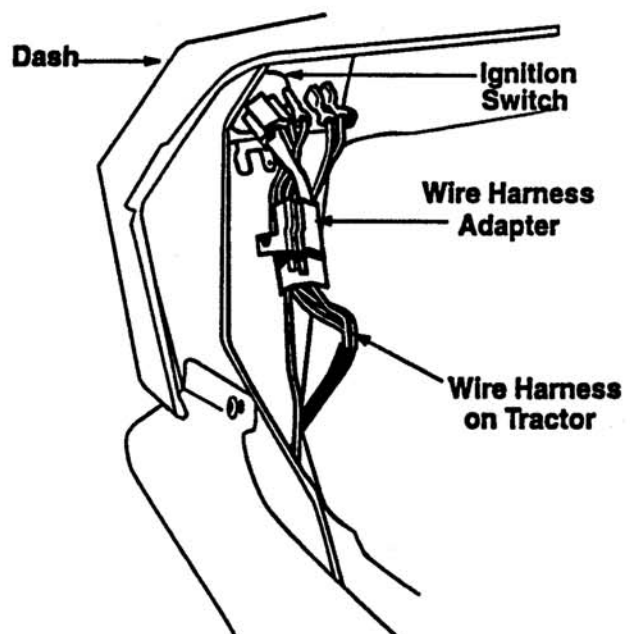

Figure 2.
11. Plug the female end of the wire harness adapter supplied with this kit, onto the new ignition switch. See figure 2.